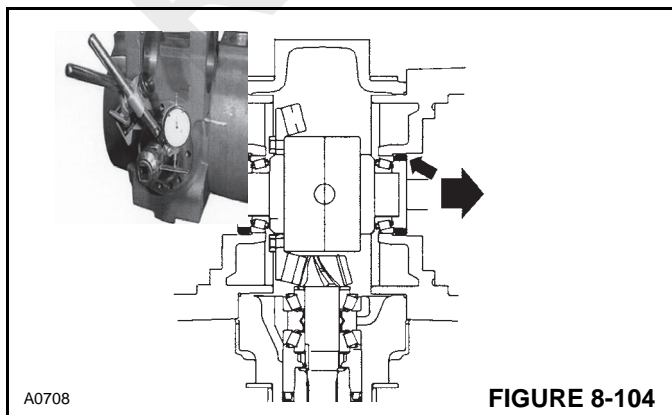

FIGURE 8-104
12. When the pinion-bevel gear backlash has been adjusted, check that there is a minimum pre-loading on the differential housing bearings (Figure 8-104).